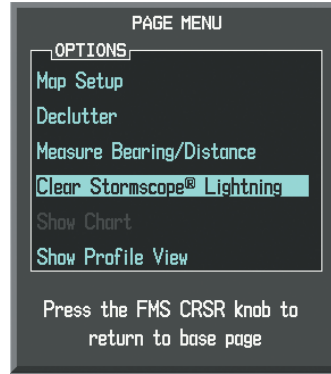

Figure 6-57 Navigation Map Page Options Menu
- 2) Select 'Clear Stormscope® Lightning' (Figure 6-57).